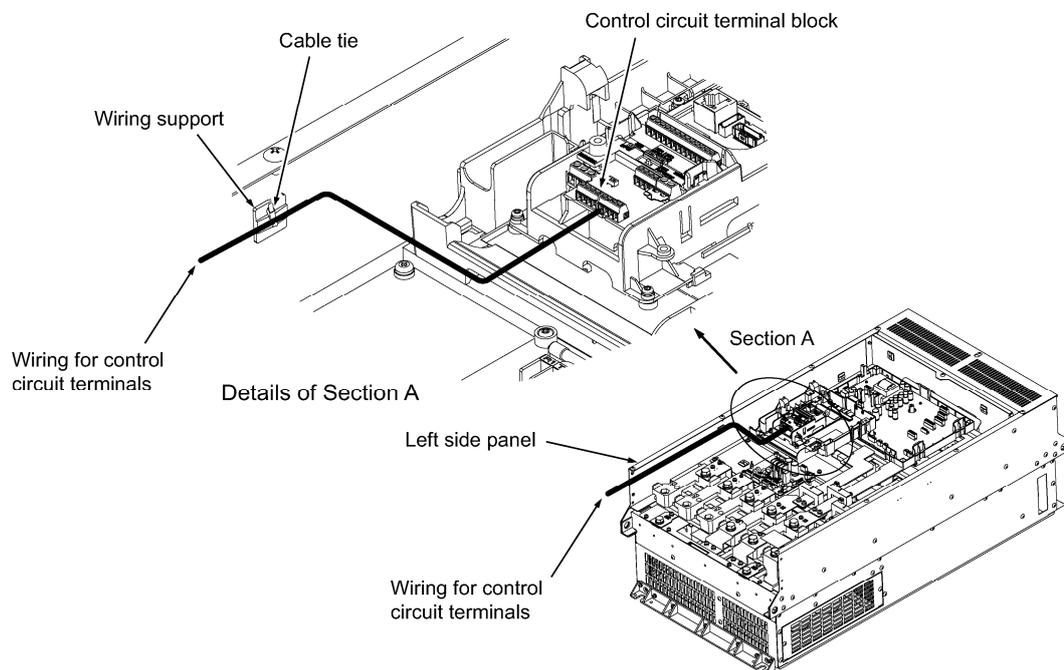

Figure 2.2-19 Wiring Route and Fixing Position for the Control Circuit Wires
- (1) As shown in Figure 2.2-19, route the control circuit wires along the left side panel to the outside of the inverter.
- (2) Secure those wires to the wiring support, using a cable tie (e.g., Insulok) with 3.8 mm (0.15inch) or less in width and 1.5 mm (0.06inch) or less in thickness.